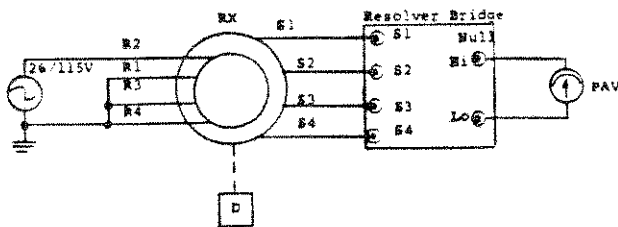

Figure 7-17. Angular Accuracy Test (RX)
- a. Set up equipment as shown in figure 7-17.